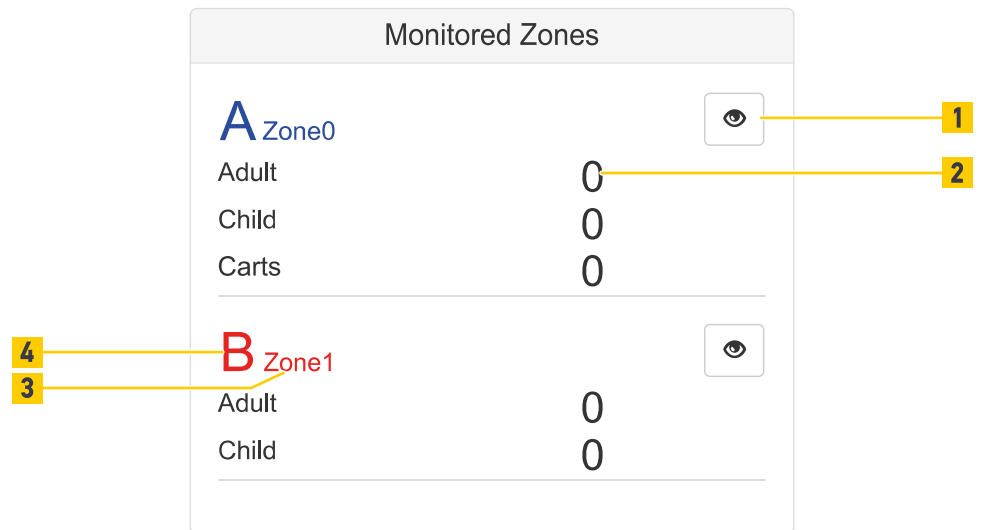

Fig. 158: Monitored zones
- Click the  button (Fig. 158 /1) to show or hide the monitored zone in the live view.
- See the actual number of objects in the monitored zones (Fig. 158 /2). The data is split into adult, child and carts, if the license for object classification is installed and cart counting is activated.
- The monitored zone is specified with its identifier (Fig. 158 /4) and its name (Fig. 158 /3).